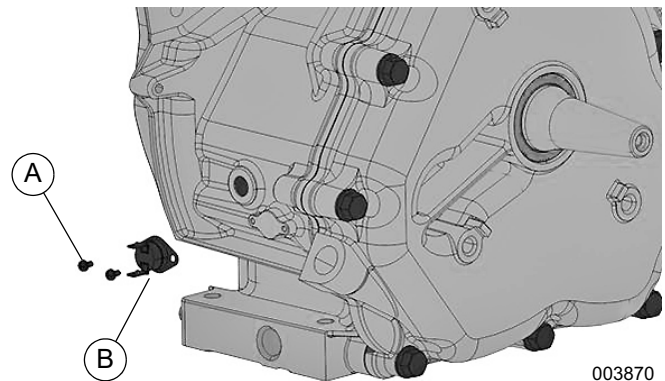

Figure 14-48. Install Thermal Switch (HSB)
See Figure 14-48. Apply thread sealant to (2) fasteners (A). Install thermal switch (B) at crankcase rear. Tighten fasteners to 8.9 in-lbs (1.0 Nm).
See Figure 14-48. Apply thread sealant to oil pressure switch (A) threads. Install switch at front of oil filter mount (B). Tighten oil pressure switch to 7.0 ft-lbs (9.5 Nm).